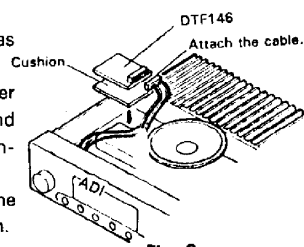

Fig. 2
3. Remove the backing from the small cushion provided with the CTS146 and attach it to the back of the CTS 146 as shown in Fig.2.
4. Attach the cable from CTS146 as shown in Fig.2.
5. Attach the cable from DTF146 as shown in Fig.2
Attach these units on the top of VCO shield(Fig.2).